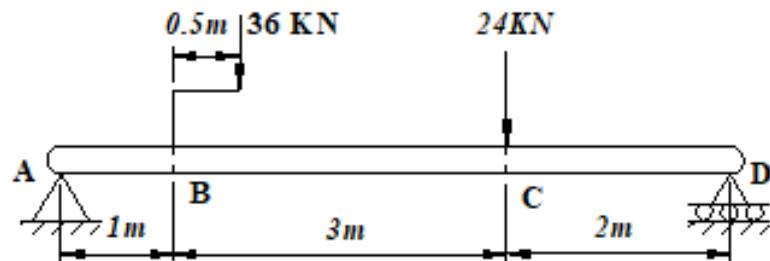

fig 5b
b) For the beam shown in fig 5b, determine the location & value of maximum deflection taking flexural rigidity $EI=11 \times 10^4 \text{ KN-m}^2$. 16